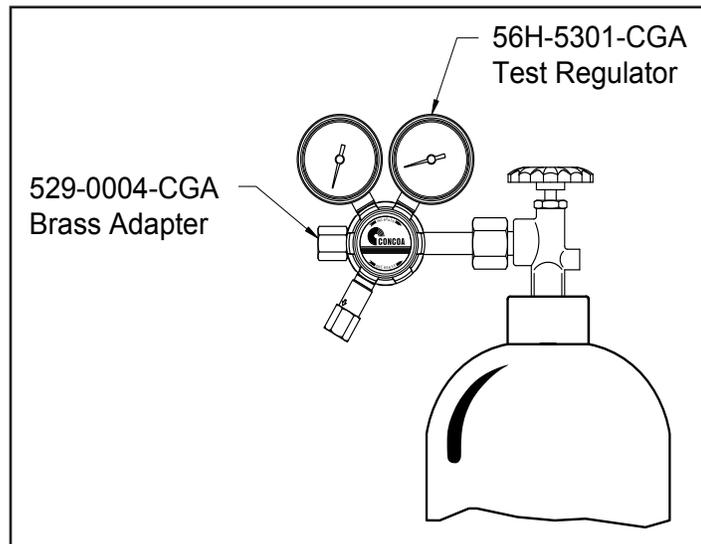

Figure 7
2. Connect last pigtail on the manifold to a test cylinder regulated to 50 psi as illustrated in Figure 7. Do not open the cylinder valves yet.